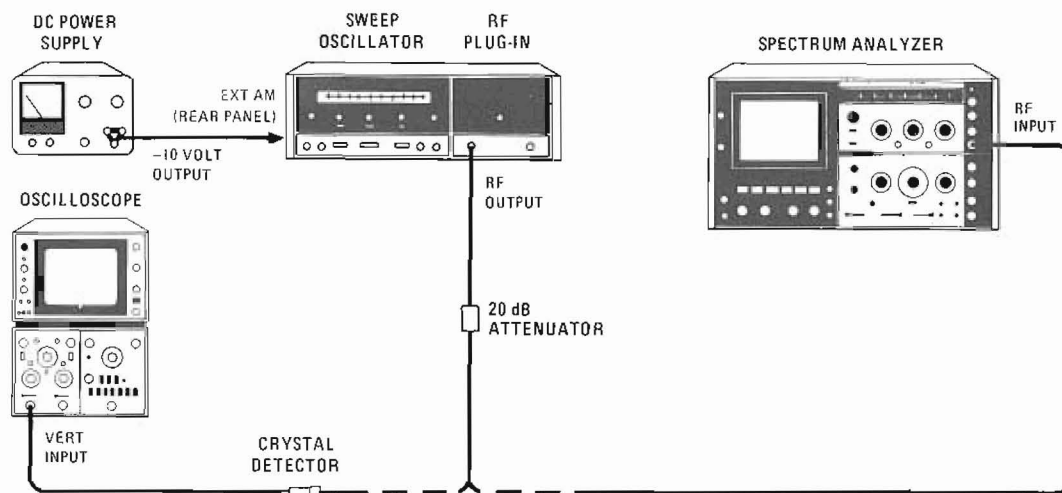

Figure 4-14. AM Modulation Test Setup
- a. Connect spectrum analyzer and 20 dB attenuator to 86220A as shown in Figure 4-14.
- h. Connect the oscilloscope and crystal detector to the 86220A as shown in Figure 4-14.